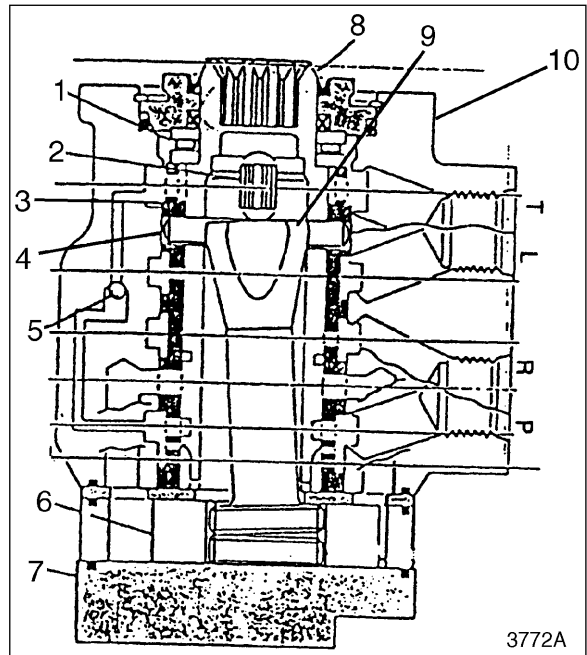
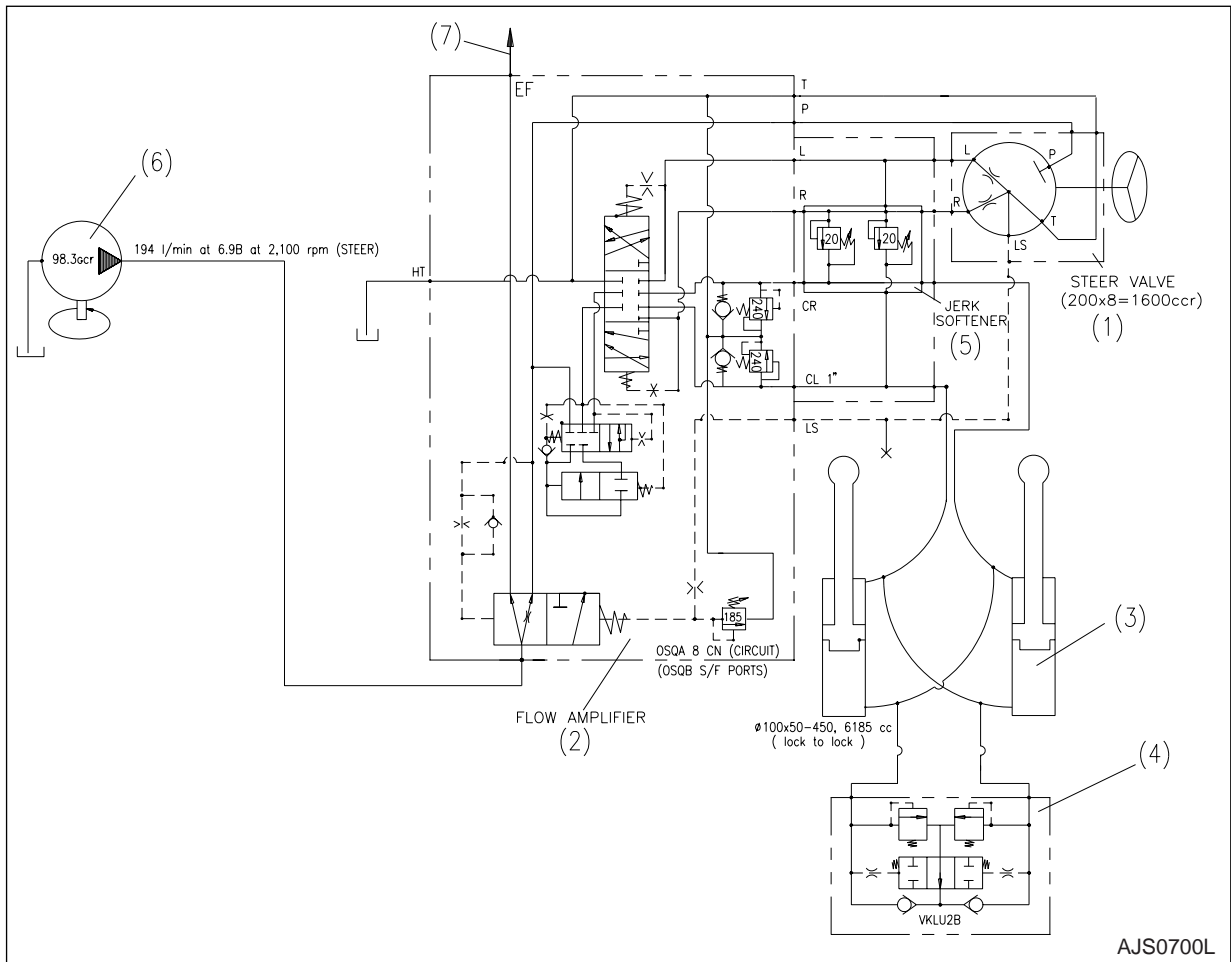
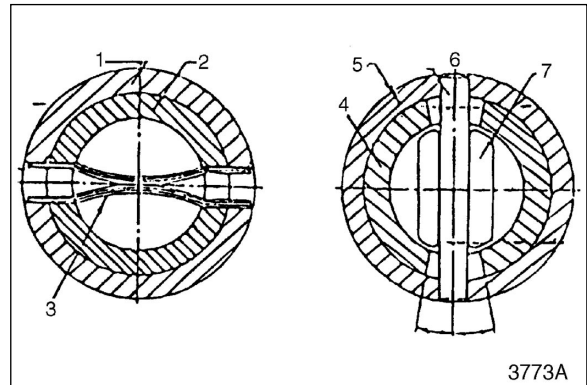

Figure 1
Figure 2 Steering Circuit
Figure 3
The machine contains a fully hydraulic steering unit. See Figure 1. Rotating the steering wheel controls hydraulic flow through the steering valve. Figure 2, shows the hydraulic schematic for the steering system. The steering valve meters the volume of pump flow that is supplied to the steering cylinders
The shaft that is rotated by the steering wheel is attached to the spool (8, Figure 1) by the engagement of a spline. The spool is surrounded by a sleeve (3). The spool and sleeve are connected by the centering spring (2). At the steering wheel neutral position, the center pin does not contact the spool. A drive shaft (9) extends through the spool. The upper end of the drive shaft engages the center pin (4). The lower end of the drive shaft engages the spline in the gerotor (6).
With the steering wheel in the neutral position (wheels turned neither right nor left), the spool (2, Figure 3) and sleeve (1) are stationary at the position where the center pin (6) becomes centered in the spool space by the centering springs (3). Oil flow through the load sensing line (LS), port L, port R, and port T are bypassed to the tank line and the oil supply (P) is blocked by the directional spool in the steering unit (1, Figure 2). Even if an external force is applied to the steering cylinder, the steering unit is protected because the oil path is blocked by the directional spool.
The spool (2, Figure 3) is engaged with the spline of the steering shaft. When the steering wheel is turned to the right, the spool turns. The sleeve (1) is connected to the spool (2) by centering springs (3). When spool turns, the sleeve turns. The sleeve turning angle is about 10° less than the spool turning angle. This allows the longitudinal slots in the spool to align with the ports in the sleeve. Oil from port P on the steering unit (1, Figure 2) travels through the control spool and is directed to port R which directs the oil to the steering cylinders (3, Figure 2). The amount of flow metered to port R is controlled by the amount of steering wheel rotation. Excess oil flow through port P that is not metered to port R, is directed by the spool to port T and is then directed through the oil cooler and into the tank.
The spool (2, Figure 3) is engaged with the spline of the steering shaft. When the steering wheel is turned to the left, the spool turns. The sleeve (1) is connected to the spool (2) by centering springs (3). When the spool turns, the sleeve turns. The sleeve turning angle is about 10° less than the spool turning angle. This allows the longitudinal slots in the spool to align with the ports in the sleeve. When the steering wheel is turned to the left, oil from port P on the steering unit (1, Figure 2) is directed through the control spool in the steering unit, out port L and into the steering cylinders (3, Figure 2). The amount of oil flow metered to port L is controlled by the amount of steering wheel rotation. Excess oil flow through port P that is not metered to port L, is directed by the spool to port T and is then directed through the oil cooler and into the tank.
If the engine or pump is not operating, the steering unit (1, Figure 2) works as a manual pump when the steering wheel is turned. The gerotor will work when the input torque to the steering wheel is less than 12 kg•m (87 ft lb). If the necessary input torque is greater than this, the gerotor will not function. When the steering wheel is turned, the gerotor creates a vacuum that draws oil from port T. See Figure 2. The gerotor pumps this oil through the control spool and into the steering cylinders. Return oil flows back to the spool and is used to lubricate the steering unit (1, Figure 2). The return oil then flows back into the tank line and is recirculated back to the gerotor and the steering cylinders.